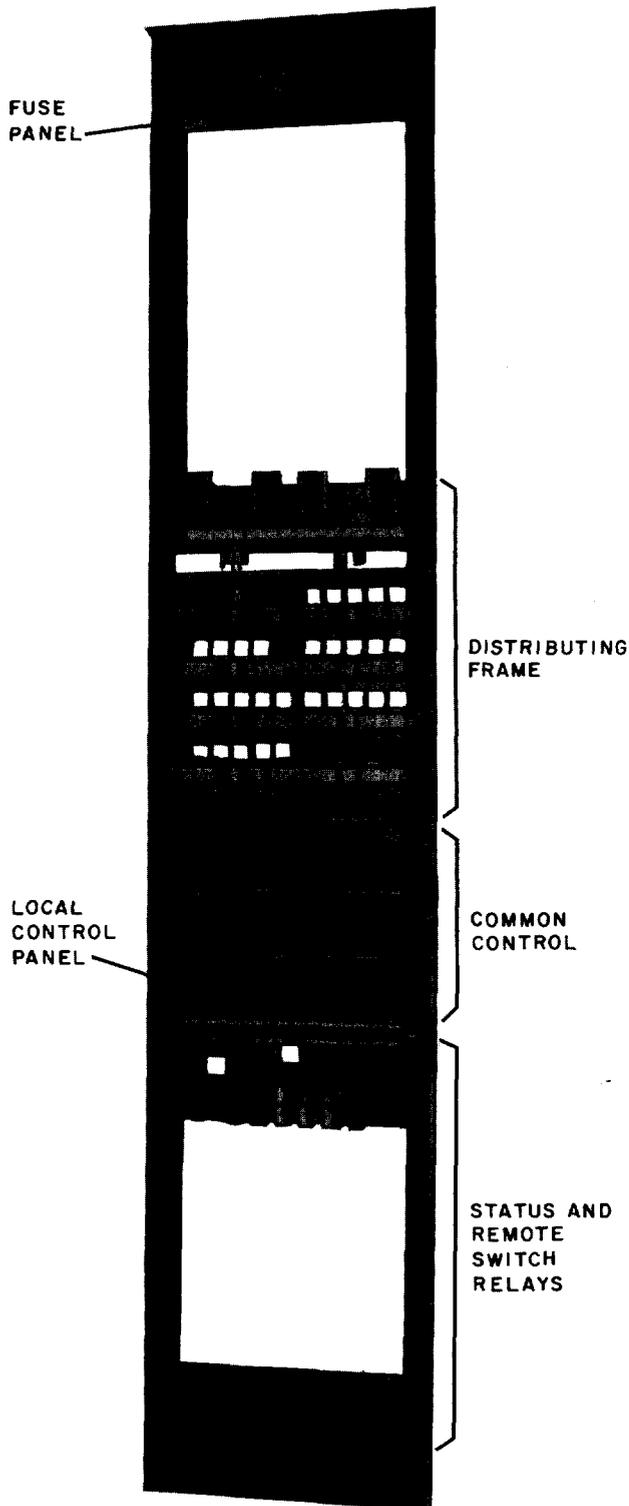

Fig. 5—Typical Remote Station
**1.09** The remote station equipment (Fig. 5) may include a local control panel which is used for local control of that remote station. This control panel (Fig. 6) is used as an aid in maintaining the E1 remote station equipment and to provide local